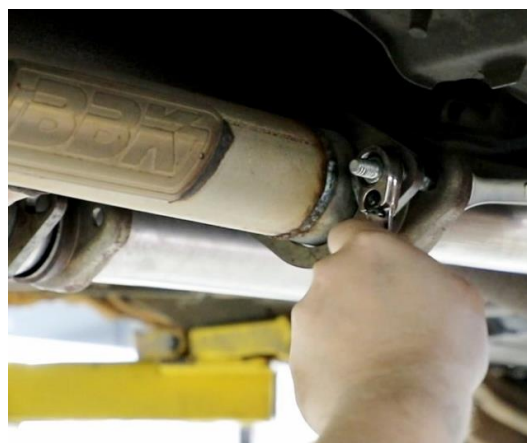

Figure 10 - Remove Rear Exhaust
- Next, you will need to drop the rear exhaust. Spray penetrant fluid on the bolts. Remove the exhaust at the flanges in front of the rear axle (Figure 10).